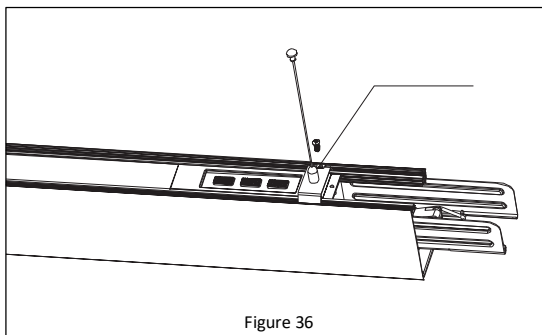

Figure 36
6. Install the lifting bracket in the fixture to a suitable position for suspending and linking. **See Figure 36.**